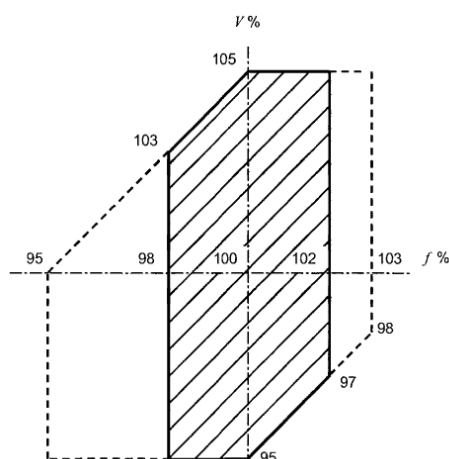

Figure 2.1: Voltage and frequency variation limits (IEC60034-3)
- As defined by the shadowed area in Figure 2.1, the generator must be able to continuously supply its rated power, operating at its rated power factor with a variation of $\pm 5\%$ in the voltage and $\pm 2\%$ in the frequency. As the operating point moves away from the rated values of frequency and voltage, the temperature in the generator windings may rise progressively;
- As defined by the external limit in Figure 2.1, the generator must also be able to continuously supply its rated power, operating at its rated power factor with a variation of $\pm 5\%$ in the voltage and $+3\%$ and -5% in the frequency. However, in this case the temperature rise will be even higher than in the previous case. Thus, in order to minimize the reduction of the generator lifespan because of the temperature effects, the extent and frequency of the operation out of the shadowed area must be limited. The power of the generator must be reduced or another corrective action must be taken.